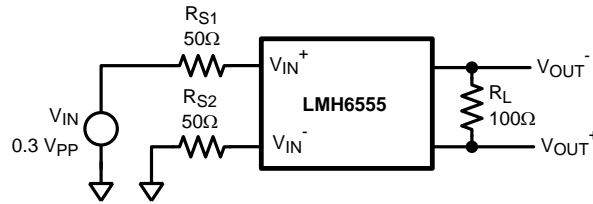

Figure 25. Single-Ended Input Drive
The following is the procedure for determining the device operating conditions for single ended input applications. This example will use the schematic shown in Figure 25.
For Figure 25:
For Figure 25 (11)
The source impedances R_{S1} and R_{S2} , as shown in Figure 25 or Figure 27, affect gain and output offset. The Electrical Characteristics and TYPICAL PERFORMANCE CHARACTERISTICS are generated with equal valued source impedances R_{S1} and R_{S2} , unless otherwise specified. Any mismatch between the values of these two impedances would alter the gain and offset voltage.